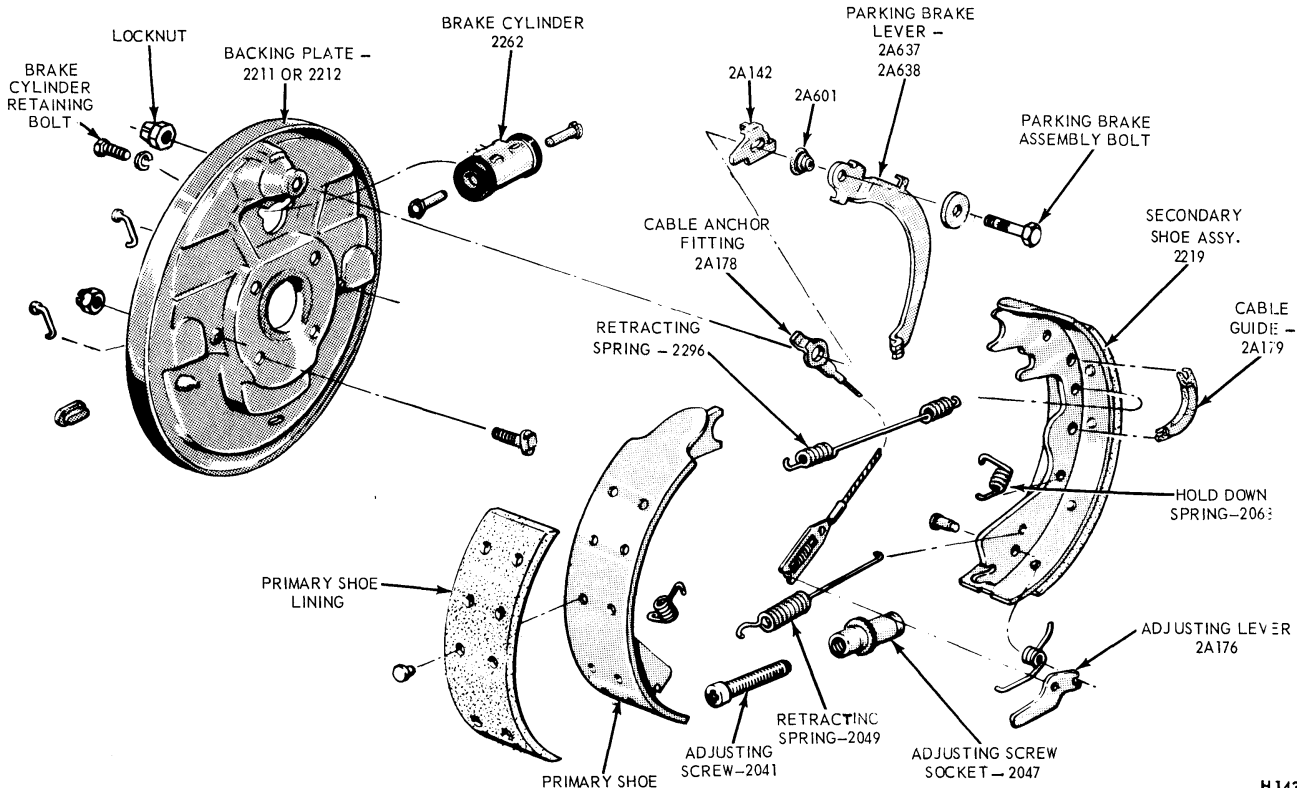

FIG. 10 Rear Web Ledge Single Anchor Brake—Disassembled
On a rear wheel, remove the parking brake lever assembly retaining nut from behind the backing plate and remove the parking brake lever assembly (Fig. 10).
- Install the brake shoe hold-down springs (Fig. 10).
Interchanging the brake shoe adjusting screw assemblies from one side of the truck to the other would cause the brake shoes to retract rather than expand each time the automatic adjusting mechanism operated. To prevent installation on the wrong side of the vehicle, the socket end of the adjusting screw is stamped with an R or L (Fig. 10). The adjusting pivot nuts can be distinguished by the number of lines machined around the body of the nut. Two lines indicate right hand nut; one line indicates a left hand nut.